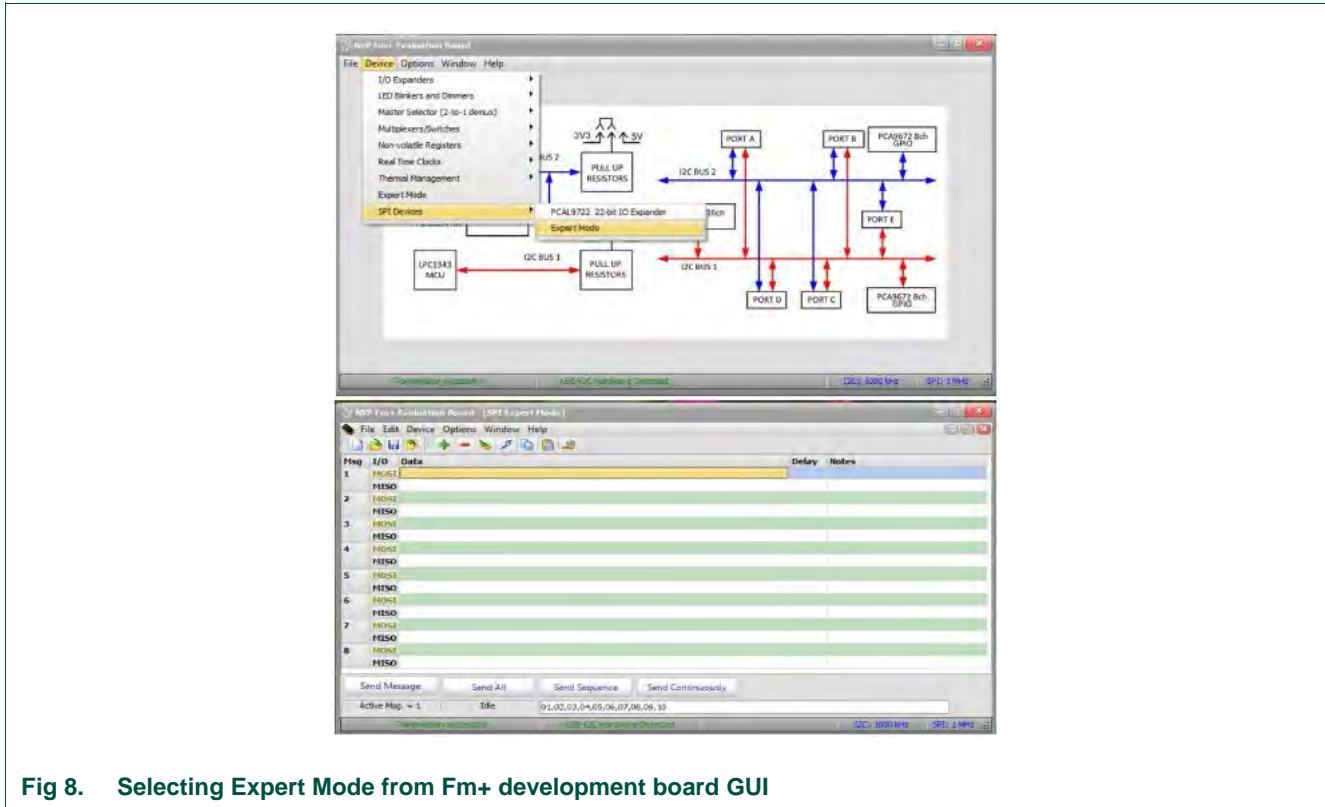

Fig 8. Selecting Expert Mode from Fm+ development board GUI
The PCA9745B is controlled by Fm+ development board GUI in Expert mode as shown in Fig 8.
Connect the hardware as described in Section 4.2. All jumpers are in default setting for PCA9745B demo board. When you have correctly installed the software and the demonstration board hardware is connected and recognized by the computer, start the Fm+ development board software. As shown in Fig 8, when the demonstration board hardware is correctly connected to the USB port and the computer recognizes it, the message “USB-I2C Hardware Detected” is displayed on the bottom of the window. SPI Frequency is controlled through the “Options” menu or by clicking on the frequency symbol on the bottom of the window.
1. From the 'Device' drop-down menus select 'Expert Modes' as shown in Fig 8.
1. From the ‘Device’ drop-down menus select ‘Expert Modes’ as shown in Fig 8.